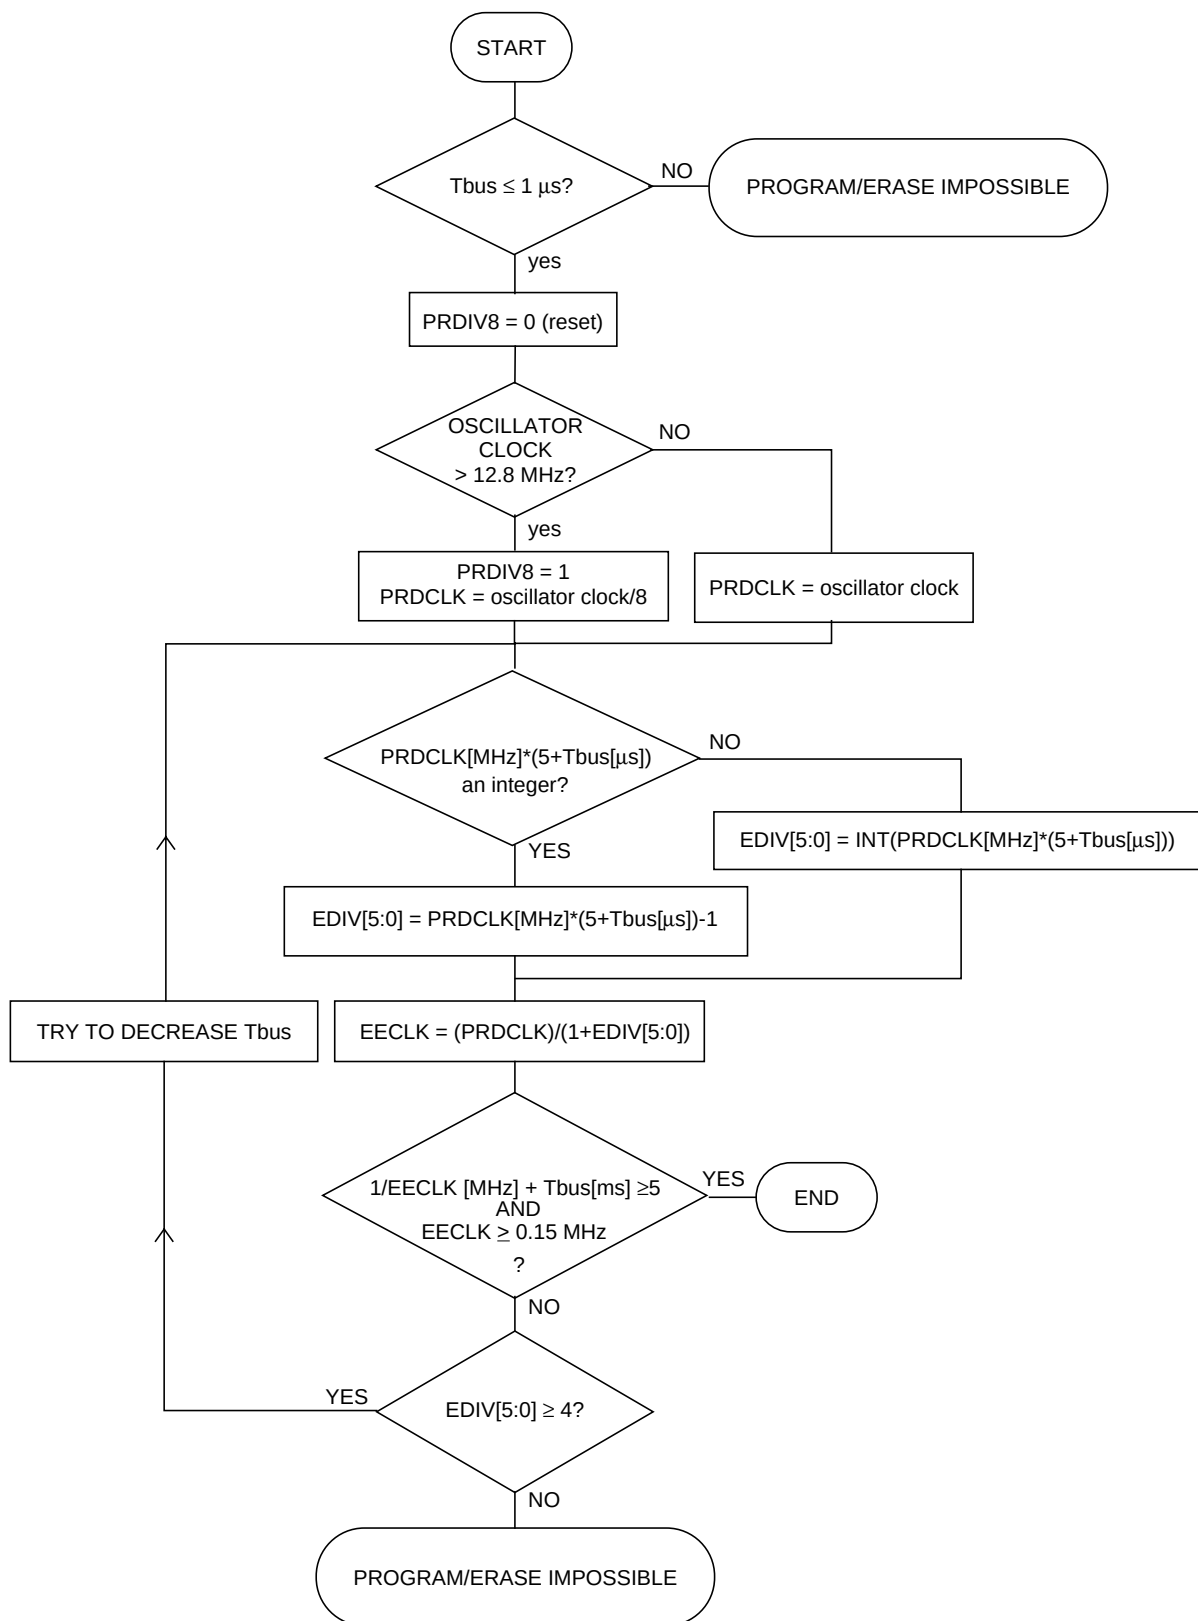

**Figure 3-17. PRDIV8 and EDIV Bits Determination Procedure**
- INT(x) as taking the integer part of x (e.g., INT(4.323)=4), then ECLKDIV register bits PRDIV8 and EDIV[5:0] are to be set as described in Figure 3-17.